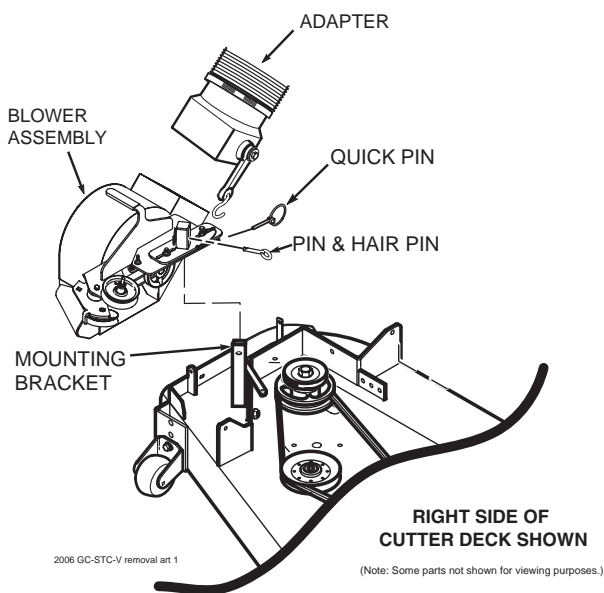

FIGURE 5-1
2. Remove the rubber strap holding the adapter to the blower assembly. See Figure 5-1.
4. Remove the pin and hair pin securing the blower assembly to the mounting bracket on the cutter deck and remove the blower assembly. See Figure 5-1.